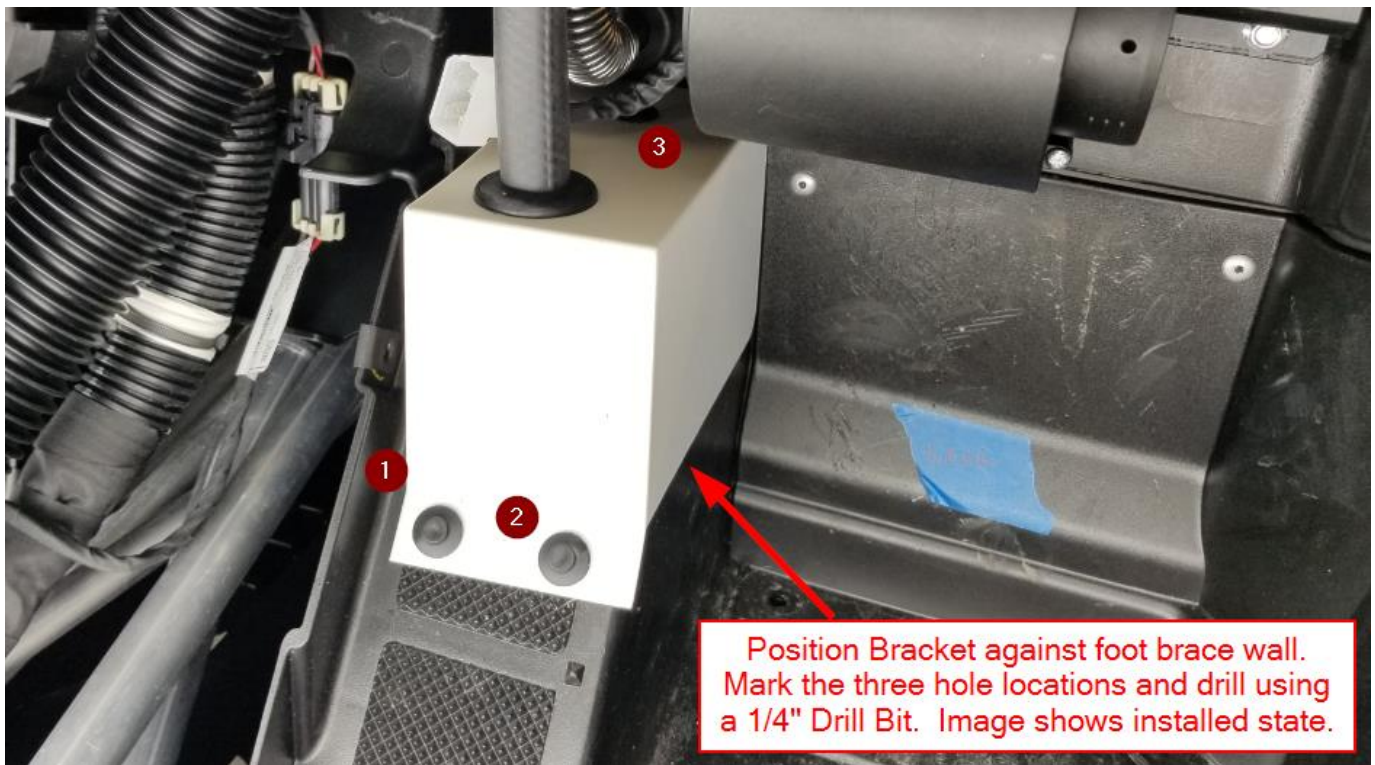

Figure 8
- h. Position the Lower Heater Hose Bracket as shown in Figure 8. Press the bracket against the vertical side wall and angled face of the passenger foot brace. Mark the three hole locations. Drill three ¼" Holes.